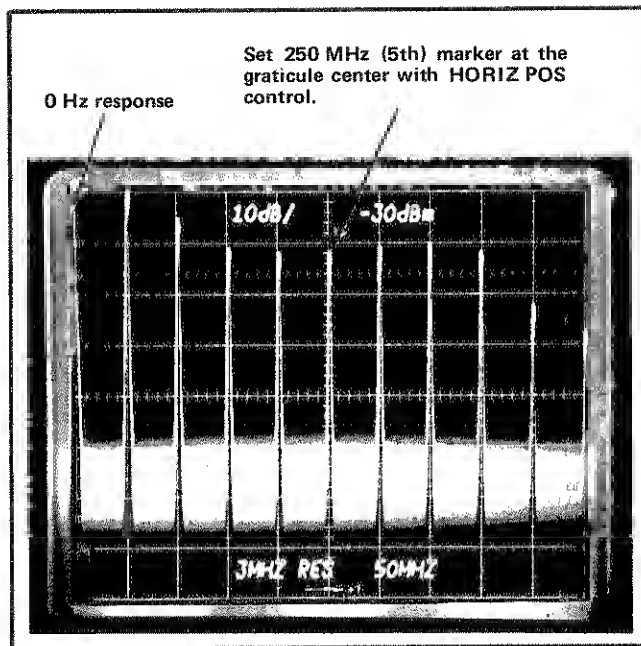

Fig. 2-3. Calibrating the sweep span.
c. Connect the CAL OUT signal to the RF INput, decrease the FREQ SPAN/DIV to 50 MHz and tune the 5th marker (250 MHz) to the center graticule line (see Fig. 2-3).
d. Calibrate the frequency span to 50 MHz/Div by adjusting the SWP CAL for 1 marker/division. It will be necessary to keep the 250 MHz marker centered with the COARSE FREQUENCY control as the sweep is calibrated. Final display should resemble that illustrated in Fig. 2-3.